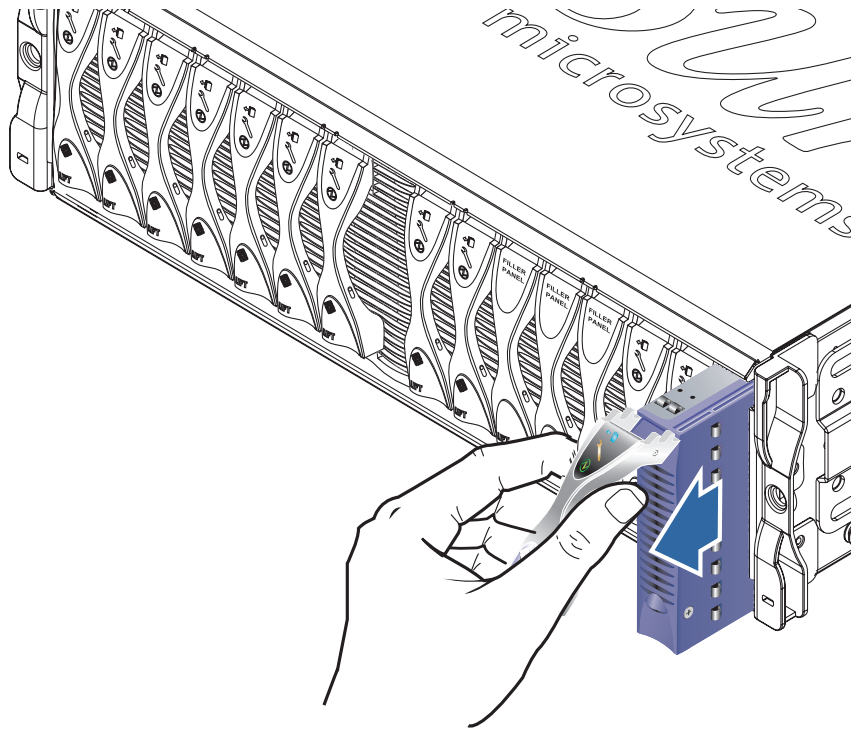

FIGURE 4-3 Ejecting the Blade
2. Pull the lever in a forward and upward motion, causing the blade lever to unlatch and eject the blade partially from the system chassis (FIGURE 4-3).